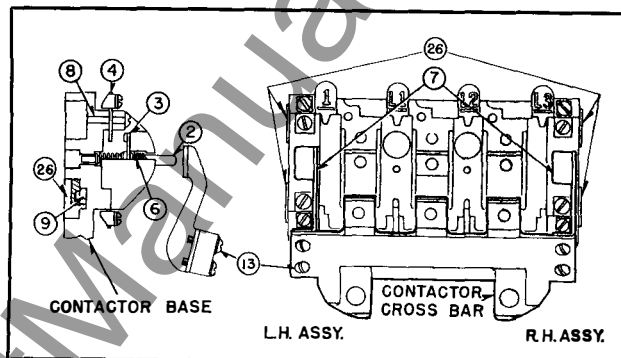
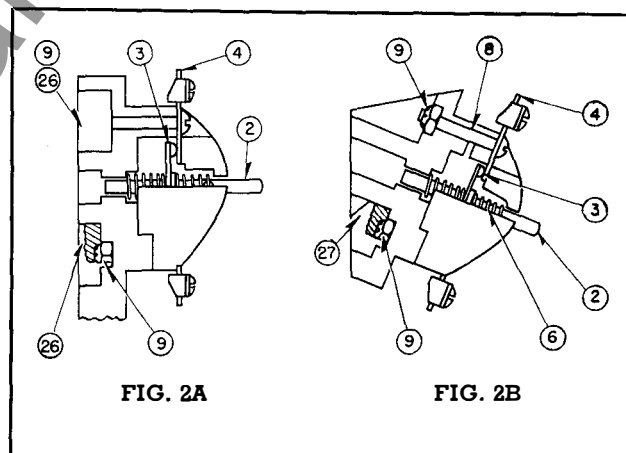
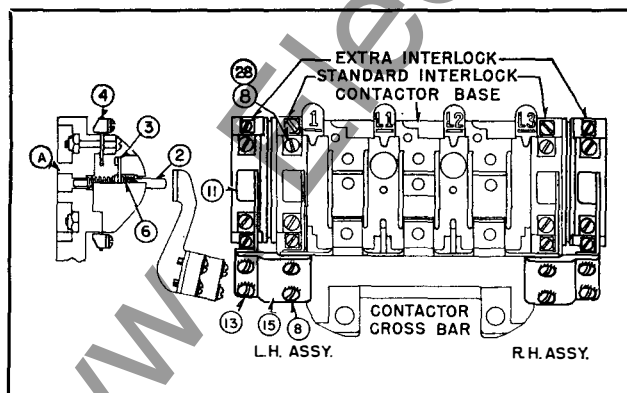
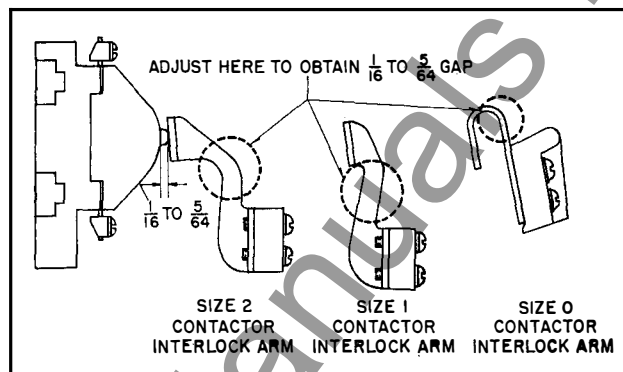

FIG. 1. Standard Normally Open (Make) Interlock
FIG. 2. Standard Normally Closed (Break) Interlock
FIG. 3. Extra Normally Open (Make) Interlock
FIG. 4. Operating Arm Adjustment (Energized Position)
TYPES L50, L51, AND L52 INTERLOCKS are designed for use on the Type N Size 0, 1, and 2 contactors and starters respectively. Each complete interlock consists of two basic parts; (1) the *inter-changeable* interlock unit without operating arm and (2) the operating arm which is *different* with each contactor size (See Fig. 4).
Standard contactors and starters come equipped with a *standard* normally open interlock mounted on the left hand side. If a *second* interlock is desired, use an additional *standard* interlock on the right side of the contactor or starter (See Fig. 1, R.H. Assy.). The *extra* interlock is designed to meet the requirement of a *third* or *fourth* interlock as shown in Fig. 3.
Fig. 1 shows the 1st and 2nd interlocks assembled, using elastic stop nut item (9) and rubber nut retainers (26) placed in the slot on all contactors and linestarters assembled at the factory. Fig. 1 illustrates the use of nut (9) and retainer (26) as used on the Size 1 and 2, two and three pole units.
by reassembling parts (3), (4) and (6) in Fig. 1 as shown in Fig. 2. (To detach the smaller spring (6) from plunger (2) compress inturned end of spring against moving contact (3) and rotate spring). Replace springs in original positions, after reversing the movable contact bar, (and moving it to the other side of the plunger shoulder) and be sure the end of spring (6) is returned to the hole from which it was removed.
2. Insert into base slot the respective rubber nut retainer items (26) or (27) complete with elastic stop nut (9).
3. Mount interlock unit (without operating arm) on the contactor base as shown in Fig. 1. Interlock mounting screws need not be tightened excessively, as Elastic Stop Nuts provide positive locking.
4. Attach operating arm (11) to contactor cross bar with screws (13) supplied with the interlock.
5. With contactor closed check $\frac{1}{16}$ in. to $\frac{5}{64}$ in. gap shown in Fig. 4. If adjustment is necessary adjust operating arm *only* in area indicated in Fig. 4.
2. Slip Moldarta sub-base (A), on which interlock unit is mounted into slots provided in contactor base and secure with screws (8) & lock washers (28) as shown in Fig. 3.
3. Remove screw assembly (13), Fig. 1, and mount operating arm supplied with interlock to Moldarta cross bar extension (15), Fig. 3.
4. Attach cross bar extension (15) to the contactor cross bar with screws (8) and lockwashers (28) furnished with the interlock as shown in Fig. 3.
5. With contactor closed check $\frac{1}{16}$ in. to $\frac{5}{64}$ in. gap shown in Fig. 4. If adjustment is necessary adjust extra interlock operating arm *only* in area indicated in Fig. 4.